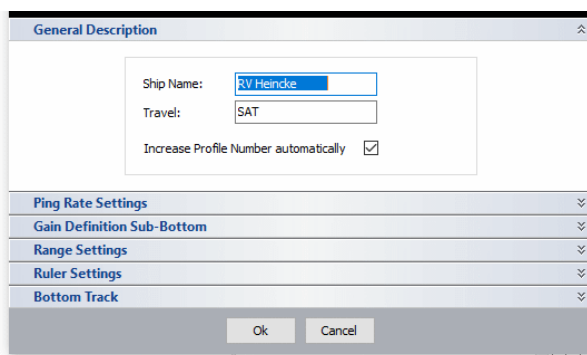

Figure 5: Setup menu, General description options
- **General description:** Information about the cruise can be entered (Figure 5)